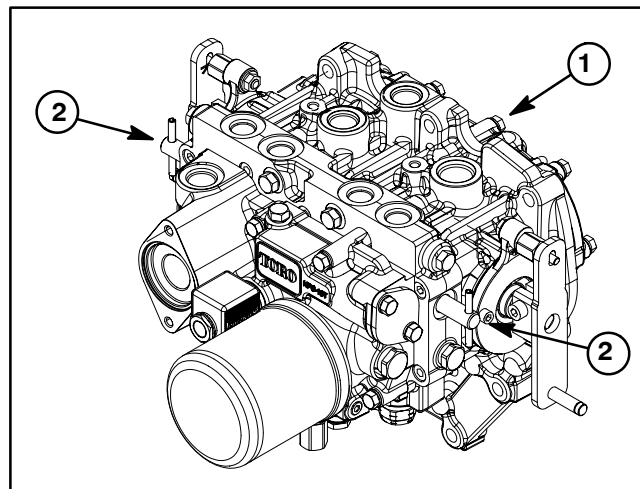

Figure 8
1. Locate two (2) by-pass valves on transmission (Fig. 8). Loosen (rotate counterclockwise) both of the valves from one (1) to two (2) turns.